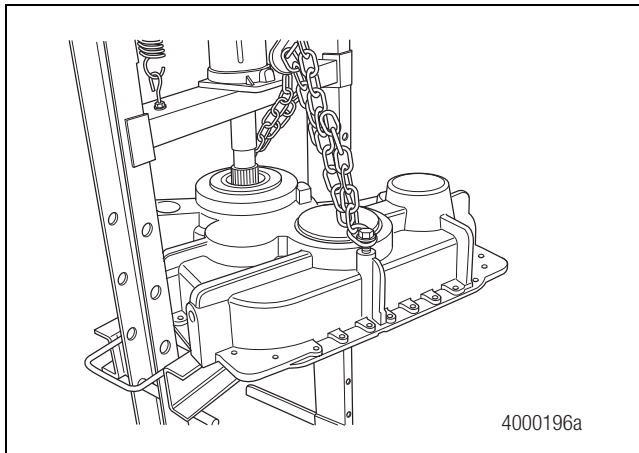

Figure 4.23
1. Set the rear cover with the rear output shaft as an assembly into a suitable press. Figure 4.23.
2. Press the rear output shaft assembly out of the rear cover. Figure 4.23.